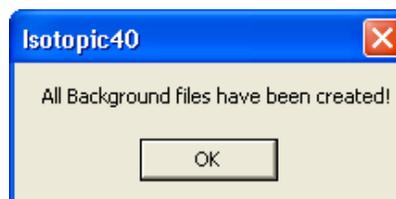

Figure 111. PBC Process Complete.
- ISOTOPIC will analyze the spectrum file, create an analysis (.An1) file and a .PBC file, and display the dialog shown in Fig. 111.